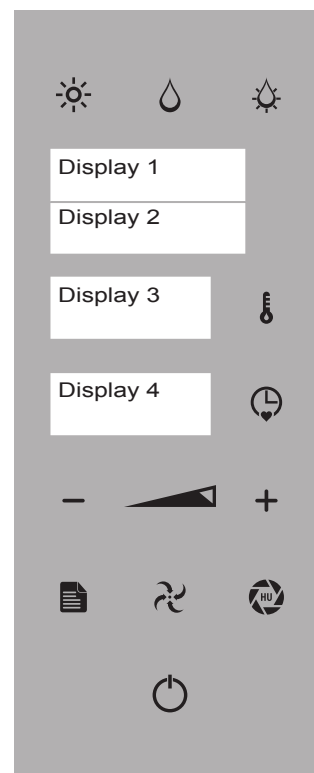

Fig.1
- "STAND BY mode: ENTER button lit and clock display (FIG. 1 DISPLAY 3).
- "MAIN MENU" MODE, ENTER KEY LIT, CLOCK DISPLAY (FIG.1 DISPLAY 3) AND DISPLAY OF FUNCTIONS (WASH - RECIPES-CORE PROBE-POST- SAVE RECIPES - IMPORT RECIPES - UPDATE FW - OFF - FIG.1 - DISPLAY 1).
In "function selection" or "parameter selection" mode, after 5 seconds of inactivity the oven memorizes the function or value displayed (Fig.1 Display 2 - 3 - 4).
The "Program" and/ cooking "Recipe" can be called up or repeated as needed. The appliance can save up to 60 programs. The duration of each program cannot exceed 9 hours of consecutive operation. Inside the "Program", 5 cooking phases are possible. The "Cooking Phase" highlighted by the word "PHASE" (Fig.1 Display 2) indicates the cooking characteristics used to treat the food.